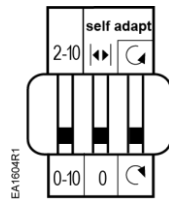

Figure 16. OFF Position (Factory Setting).
To use the entire 0(2) to 10V input signal to control the mechanically limited range, see Figure 16 for setting self-adaptive features.